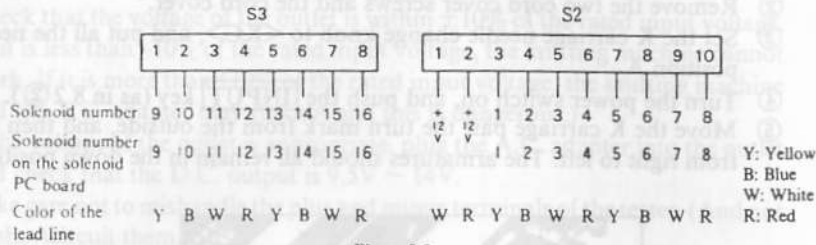

Figure 8-2
- Check the resistance between pin 1 or 2 of the S2 connector and the pin of the connector which corresponds to the unenergised armature. (Refer to figure 8-2. In picture 8-1, there is a problem in pin 1 of S2 or pin 2 and pin 5 of S3). Resistance should be within 100 - 123  $\Omega$ . If it is not, there is a problem, which may be found with the check given below. If no problem is found in the resistance values, perform the check given in test program 885
- Check the resistance between pin 1 or 2 of the S2 connector and the pin of the connector which corresponds to the unperiged signature. (Refer to figure 8-2. In picture 8-1, there is a problem in pin 1 of S2 or pin 2 and pin 5 of S3).